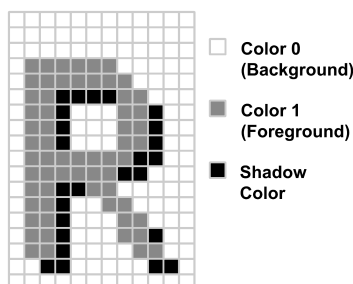

Figure 21. Shadowing
3. **Shadowing**—Shadowing can be added to two-color characters by choosing the appropriate attribute value for the character. When a character is shadowed, a shadow pixel is added to the lower right edges of the color 1 image, as shown in Figure 21. The color of the shadow is determined by the value in the color palette register EF3, which is normally set to black.